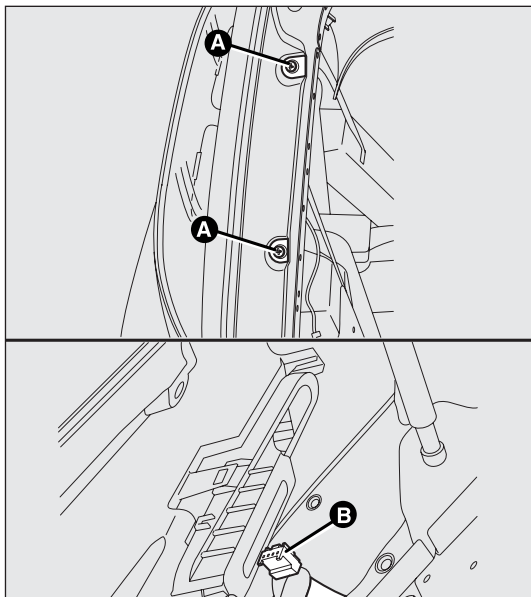

fig. 146
The bulbs are arranged inside the light cluster fig. 146 as follows:
- undo both fixing screws A-fig 146;